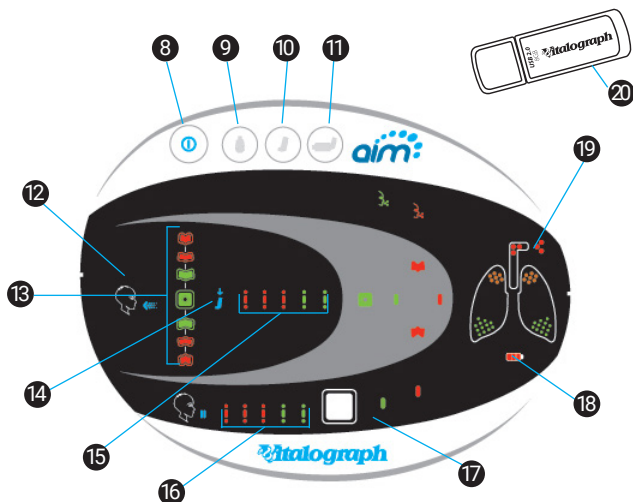

Figure 1: AIM Components
3. Attach the silicone tubing (Figure 1) to the port on the side of the AIM. Attach the other end of the tubing to the required flowhead.
**Note:** *These operating instructions and results are for the generic AIM device. Some variants with different/custom DPI simulators may differ slightly from what is shown in Figure 1. Refer to the supplementary documentation supplied with the device for additional instructions.*
1. Use the silicone tubing (3) to connect a new MDI or DPI inhaler simulator (Figure 1) mouthpiece to the device.
2. If MDI inhaler simulator mouthpiece is being used, insert the placebo canister (6).
3. Press power button (7) and select required inhaler simulator option:
- DPI simulator (8)
- MDI simulator (9)
- Spacer simulator (10)